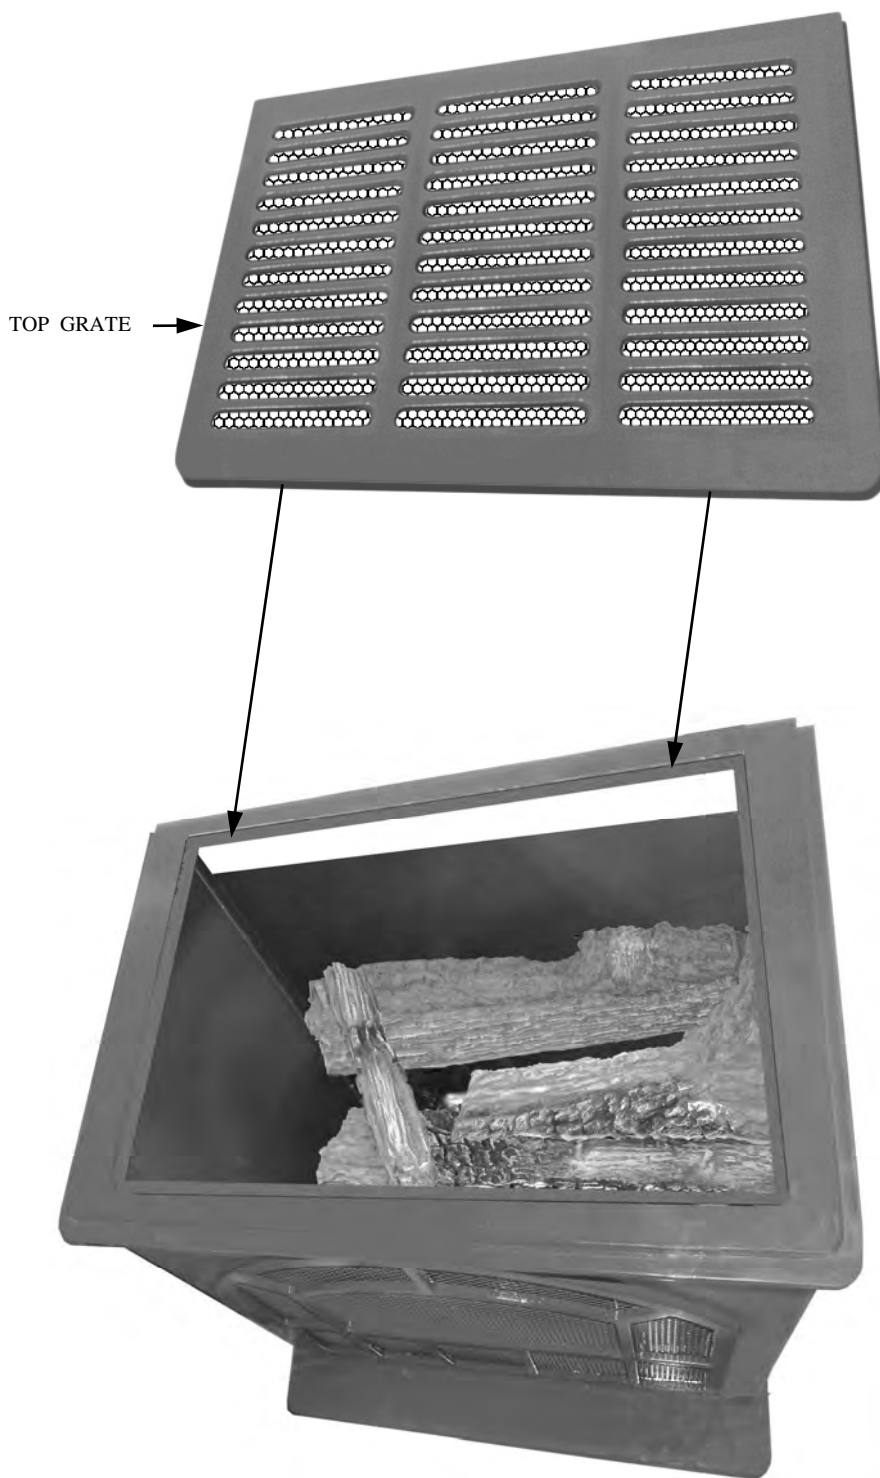

FIGURE 14 - INSTALL TOP GREAT
3. Place the top grate on unit as shown. (See Figure 14).
We also recommend that you keep the burner tube and pilot assembly clean and free of dust and dirt. To clean these parts we recommend using compressed air no greater than 30 PSI. Your local computer store, hardware store or home center may carry compressed air in a can. You can use a vacuum cleaner in the blow position. If using compressed air in a can, please follow the directions on can. If you don't follow directions on can, you could damage the pilot assembly. **NOTE: For Townsend II** See (Figure 11, page 12). For **Hepplewhite** See (Figure 14, page 14). Removing access door and top grates of your stove will make cleaning easier.